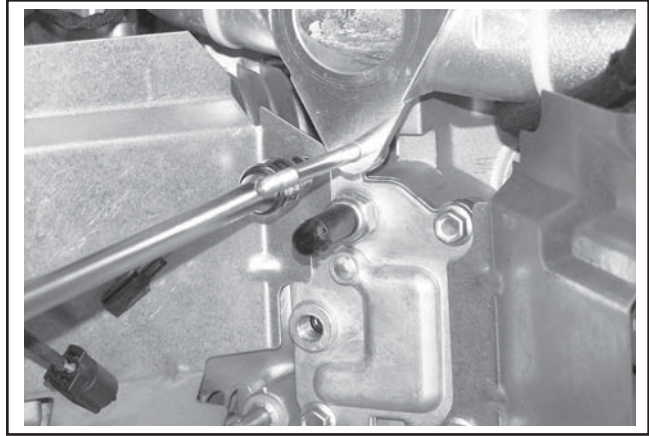

Figure 8-33. Removing Inner Baffles.
2. Remove the inner (valley) baffles. See Figure 8-33.